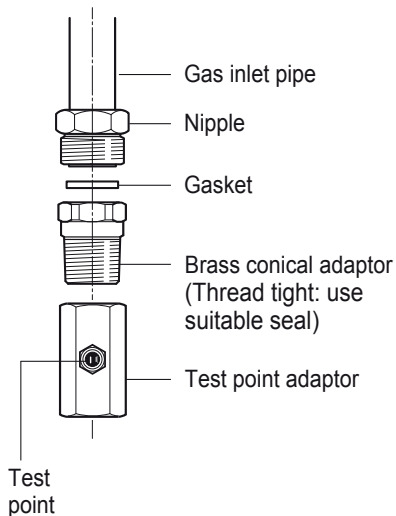

Figure 12b
- For ULPG models the gas supply is connected to the test point adaptor which is supplied with the appliance (fig. 12b) and ensure that the supply pressure is regulated to 2.75 kPa.